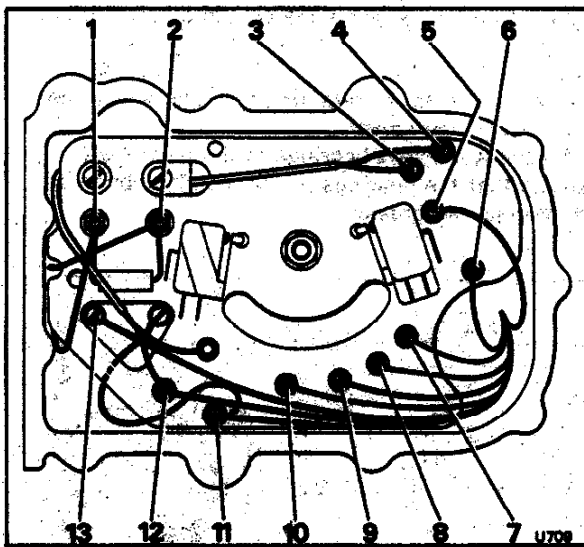

Fig. T23 Cable connections - plug type actuator
17. Fit the four 3 B.A. nuts and washers to the contact plate and connect the motor feed cables and the suppressor across the relay mounting bolts as shown in Figure T23. All slack in the motor cables should be taken up by rotating the eyelets about the terminal posts.
20. Fit all cables to their respective connections in accordance with Figures T23 and T24.